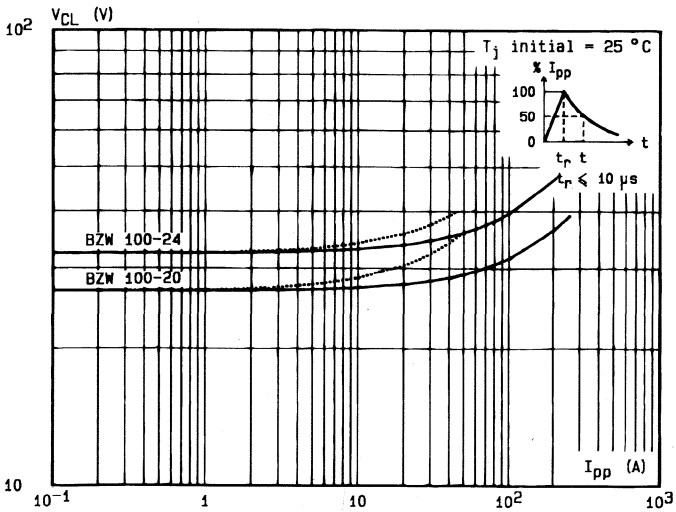

Fig.2 - Clamping voltage versus peak pulse current
Note : The curves of the figure 2 are specified for a junction temperature of 25 °C before surge. The given results may be extrapolated for other junction temperatures by using the following formula : $\Delta V \text{ (BR)} = \alpha_T \text{ (V (BR))} \times [T_j - 25] \times V \text{ (BR)}$